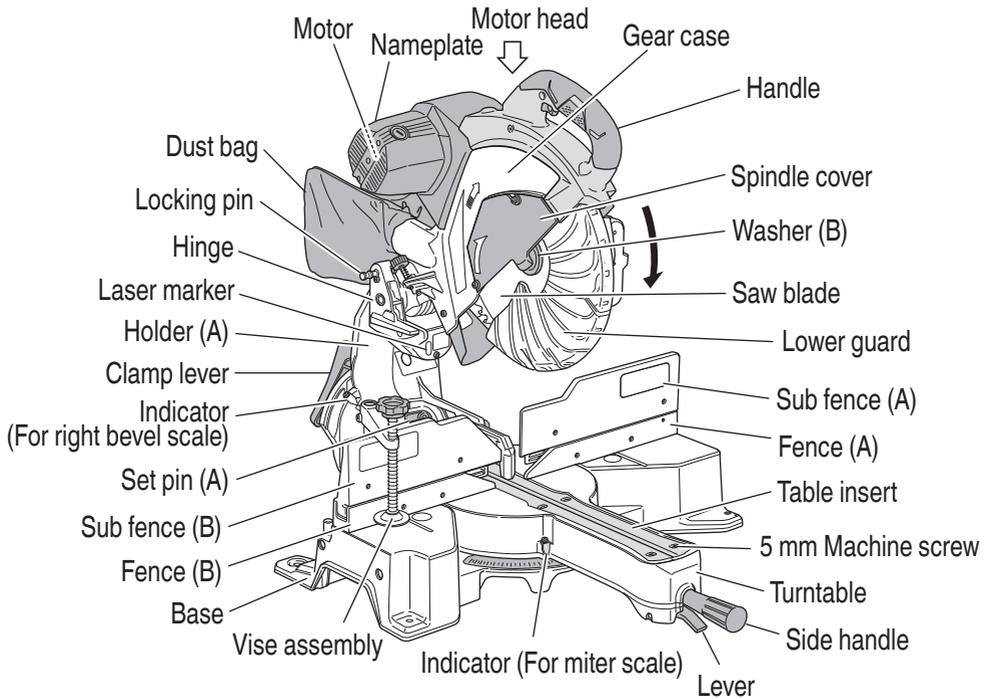

Fig. 1
6. Attach the dust bag to the main unit (**Fig. 1 on page 36**)